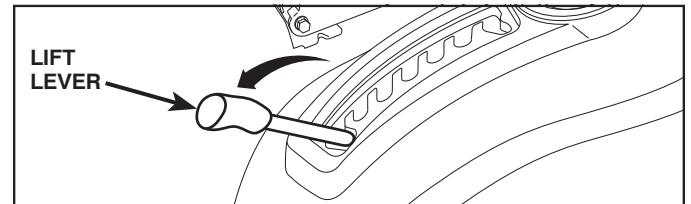

Fig. 26
2. ASSEMBLE FRONT GAUGE WHEEL (W) TO FRONT OF MOWER (See Fig. 26 & 27)